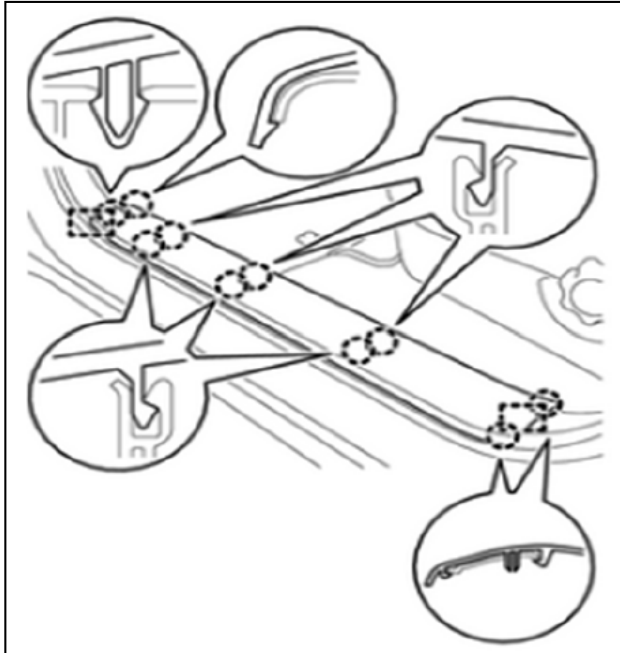

Figure 25
26. Engage the 10 claws and 2 guides to install the front door scuff plate LH. See Figure 25.